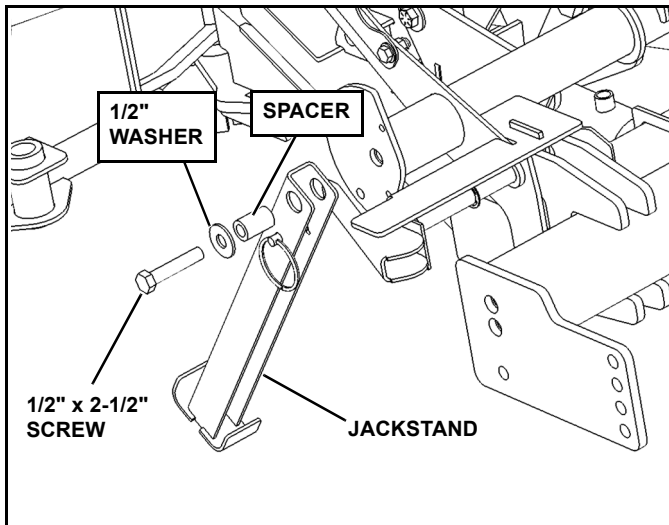

Figure 1-15
29. Place Jackstand over drivers side bracket located at the end of the tube on the lower light lift bar. From the jackstand parts bag insert the spacer and secure with a 1/2" washer and 1/2" x 2-1/2" screw. (See Figure 1-15.)